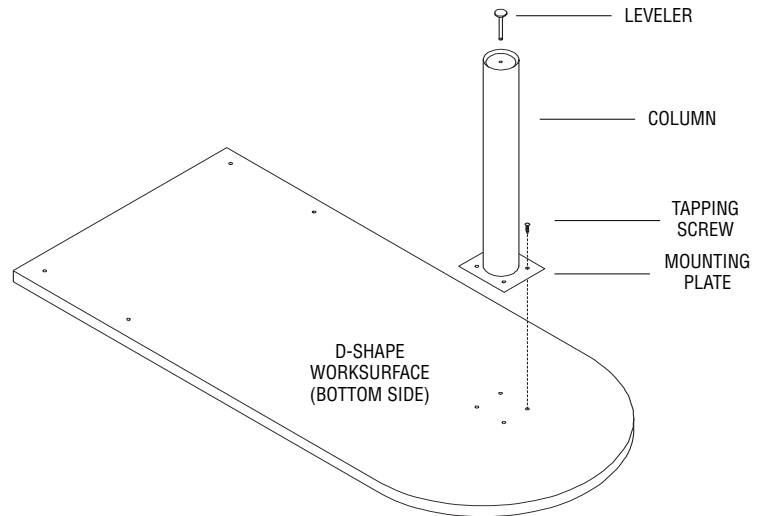

FIG. 1
2. Fasten D-leg column to round end of worksurface with (4) tapping screws provided (Figure 1).